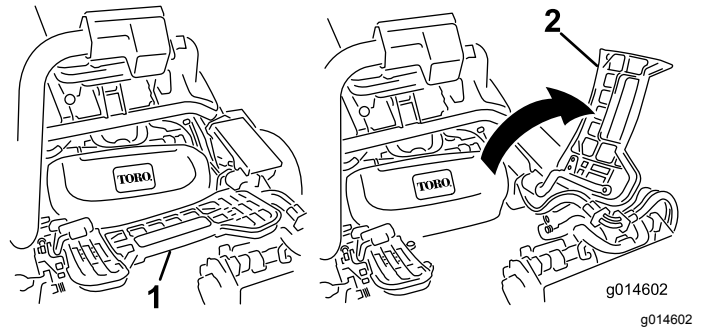

Figure 41
1. Lift up on the foot rest and swing it open, allowing access to the center cutting unit position (Figure 41).